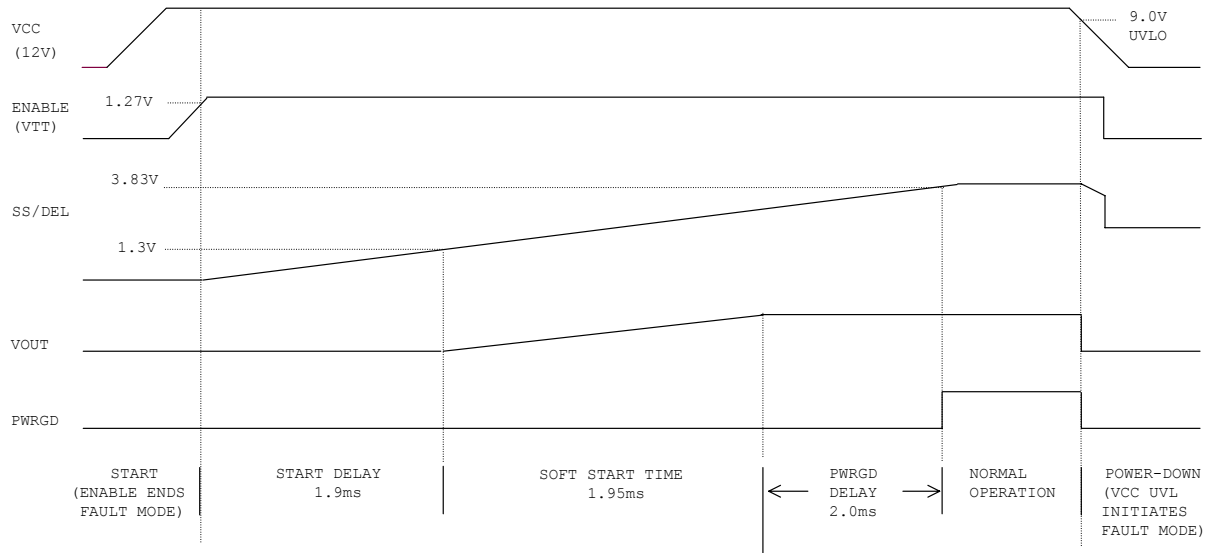

Figure 10 – Start-up Waveforms
The IR3082PbF has a programmable soft-start function to limit the surge current during the converter start-up. A capacitor connected between the SS/DEL and LGND pins controls soft start as well as over-current protection delay and hiccup mode timing. A charge current of 66 $\mu$ A and discharge current of 6 $\mu$ A control the up slope and down slope of the voltage at the SS/DEL pin respectively. Soft start-up waveforms are shown in Figure 10.
The SS/DEL pin voltage controls the slew rate of the converter output voltage, as shown in Figure 10. After the ENABLE pin voltage rises above 1.23V, there is a soft-start delay time  $t_{SSDEL}$ , after which the error amplifier output is released to allow the soft start. The soft start time  $t_{SS}$  represents the time during which the output voltage rises from zero to  $V_o$ .  $t_{SS}$  can be programmed by an external capacitor, which is determined by Equation (1).